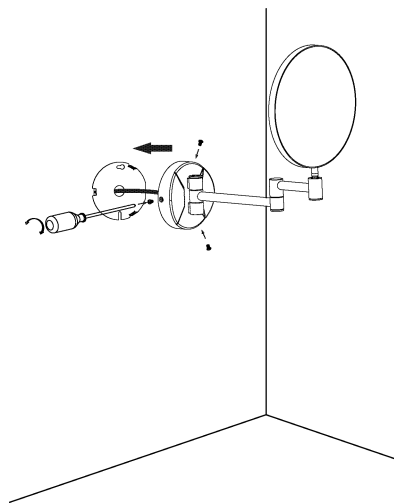

Fig.5
2.2 Covered the chassis and screw, see (Fig.5)